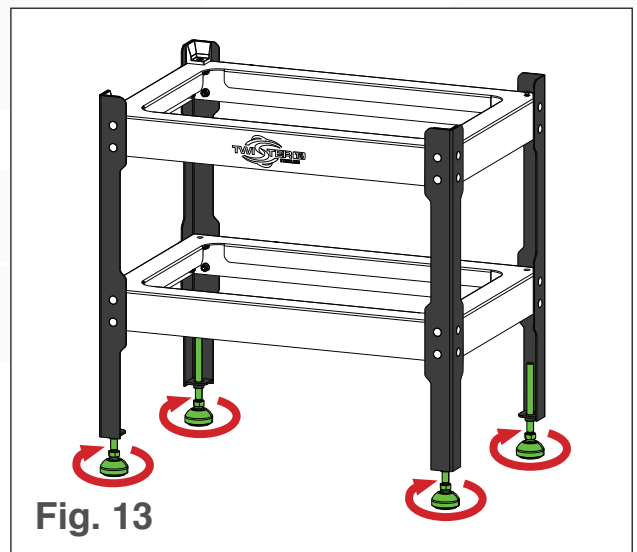

Fig. 13
- iii. Adjust the stands' levelling feet so the stands are at their minimum height (see Fig. 13).